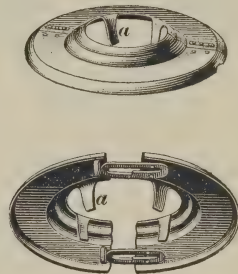

FIG. 63
**91.** **Stamped-metal floor plates** are stamped from sheet metal, and are lighter and lie closer to the floor, which is a good point in their favor. The **Russell plate**, shown in Fig. 63, belongs to this class. The parts are joined by a metal tongue projecting through a band on the adjoining half; a notch in the tongue secures the sections together. There is enough spring in the prongs *a* to hold the plate in place by their pressure against the pipe. One objection to this plate is that it has no flange around the pipe to protect the woodwork.